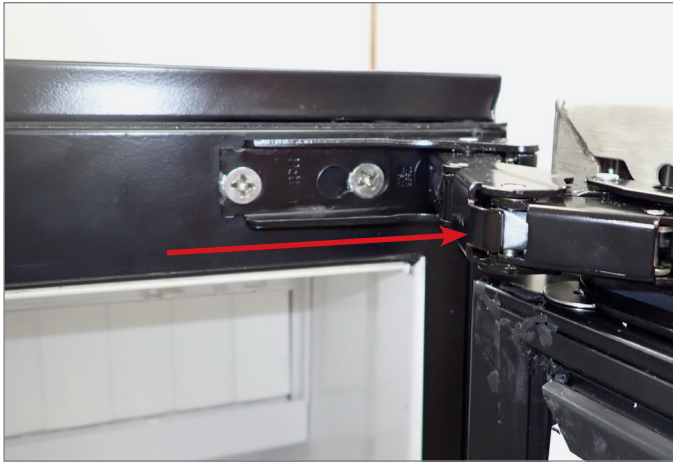

FIG. 1. Slide the door off the hinge bolts through the keyhole slots.
1. Loosen the hinge bolts and remove the door. See fig. 1.